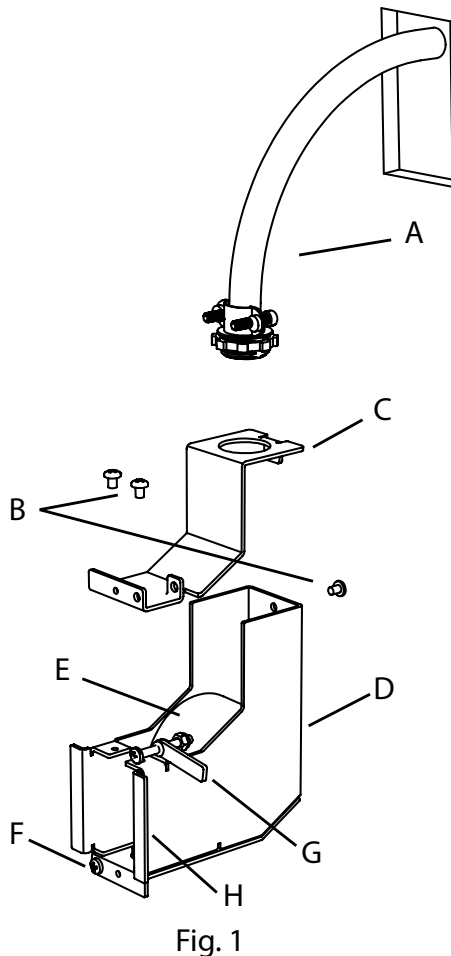
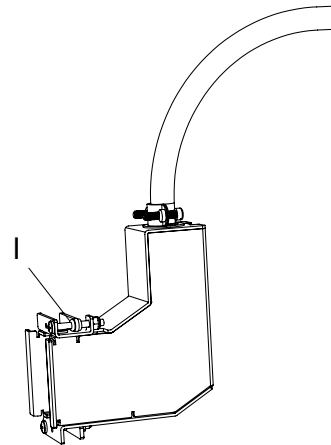

Fig. 1
Fig. 2
1. Shut off power to the branch circuit conductor, 1/2 trade size flexible metal conduit or building cable (A). (Fig. 1)
2. Cut an opening in the mounting surface (minimum 3/8" thick) that measures 1.5" wide by 2.75" high. (Fig. 1)
3. Pull the flexible cable/conduit (A) through the opening. (Fig. 1)
4. Remove the three Phillips screws (B) and separate the Minibox into upper (C) and lower (D) halves. (Fig. 1)
5. Remove the knockout tab from the upper half (C) and attach the cable/conduit (A) to the knockout opening using appropriate connectors (Note: Cable/conduit and connectors not included). (Fig. 1)
- a. Connect the LED driver's (E) live wire (black) to the live outlet box wire.
- b. Connect the LED driver's (E) neutral wire (white) to the neutral outlet box wire.
- d. Carefully place connections and LED driver (E) in lower half (D), with the connections in the section near the knockout. (Fig. 1)
7. Reattach upper (C) and lower (D) halves by installing the three Phillips screws (B) removed previously. (Fig. 1)
8. Loosen the two mounting screws (F) on the front face of the Minibox until the gap between the wing tabs (G) and the side tabs (H) is greater than the thickness of the mounting surface.
9. Flip wing tabs (G) inward so that the Minibox will fit into the drywall opening. (Fig. 2)
10. Slide O-rings (I) along mounting screws (F) so that they are flush against the wing tabs (G). (Fig. 2)